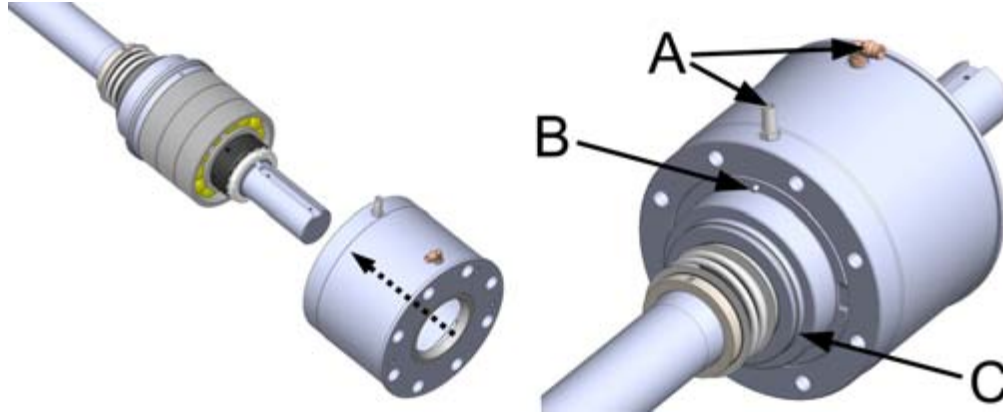
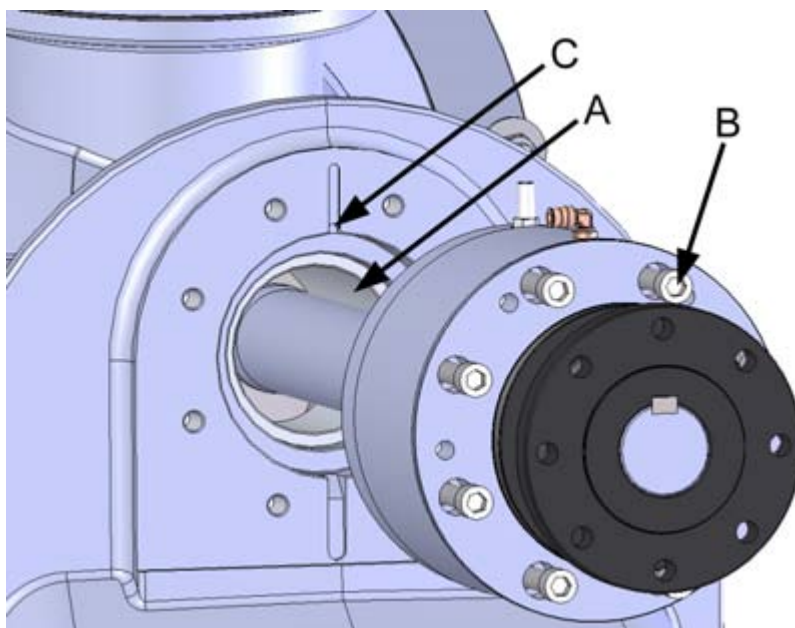

Figure 16. Installing the bearing housing
Figure 19. Attaching the bearing housing
Make sure that the bearing housing's hose fittings (figure 16, point A) and the dowel pin on the front surface of the sealing housing (figure 16, point B) are aligned. This way the hose fittings are correctly oriented on the top of the bearing housing.
3. Make sure that the o-ring that seals the sealing housing against the frame of the jet (figure 16, point C) is in place.
4. Push the shaft bearing into its place through the hole in the frame of the jet (figure 19, point A), and tighten the bearing housing fastening screws (8 pcs, figure 19, point B) using an Allen wrench. Use a thread locking compound (such as Loctite 242).
Note that the sealing housing dowel pin (figure 16, point B) fits into the hole on the frame of the jet (figure 19, point C).